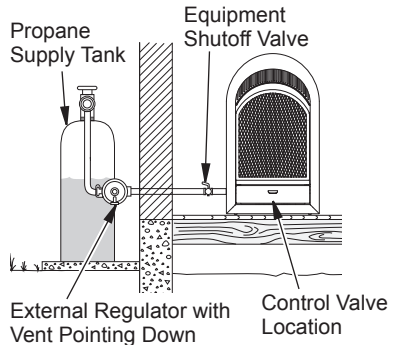

Figure 16 - Checking Gas Joints for Propane Gas
3. Check all joints from gas meter to equipment shutoff valve for natural gas or propane supply to equipment shutoff valve for propane (see Figure 16 or 17). Apply a noncorrosive leak detection fluid to all joints. Bubbles forming show a leak.
4. Check all joints from equipment shutoff valve to control valve (see Figure 16 or 17, page 16). Apply a noncorrosive leak detection fluid to all joints. Bubbles forming show a leak.